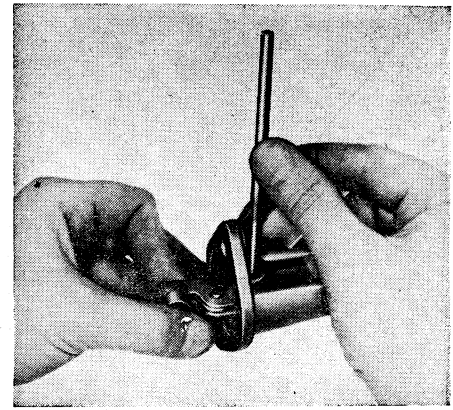

Fig. 22 Series R. Use of assembly pin to hold rocker arm and link in place
2. Slide the rocker arm and link assembly into the body and retain in position with the thin end of the assembly pin shown in Fig. 22.